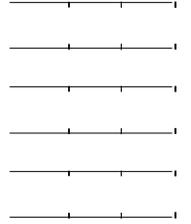

Figure 2
5. Tie the tubing to the wire mesh or rebar using Wirsbo wire ties and wire twister. Secure the tubing to the wire mesh or rebar every four feet along straight runs. At the 180° turns, tie the tubing at the top of the arc and once on each side, 12" from the top of the arc (see Figure 2), to prevent it from dislodging or floating into the pour.